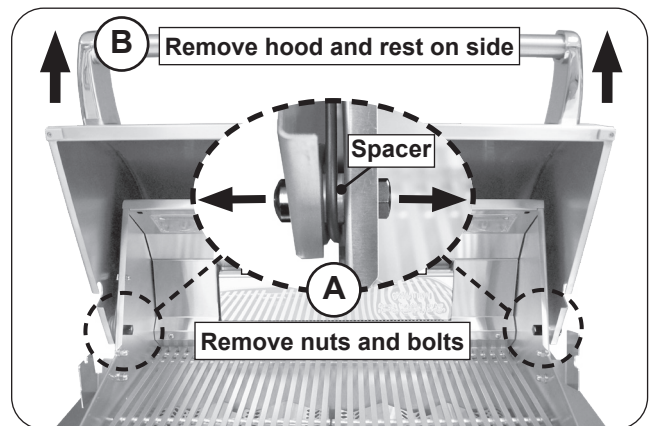

Fig. 1-2 Remove hood
3. Remove oven hood bolts and nuts from both sides as shown in Fig. 1-2, A.
4. **Using two installers**, carefully lower the hood (slightly) to free the spring(s) from the spring mount(s) (if applicable), then carefully lift the oven hood from the grill and remove completely (Fig. 1-2, B). Rest the hood (on it's side) on a soft surface.